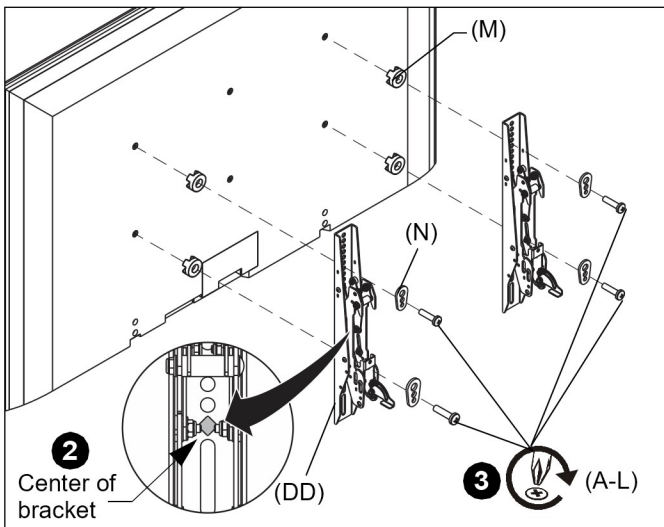
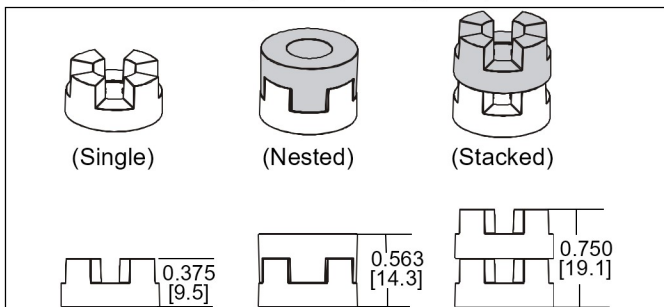

Figure 8
Figure 9
- Align the center of the interface bracket (EE) with center of screen. (See Figure 8)
- Select correct screws, spacers (if necessary) and universal washers from the hardware bag (A-N) and attach brackets (EE) to back of screen. (See Figure 8)
**IMPORTANT ! :** The M8 screws do **NOT** require a washer. Use the universal washer (N) only with M4, M5 and M6 screws.
**NOTE:** The nesting spacers (M) may be used separately, or put two together in different configurations to create different size spacers. (See Figure 9)